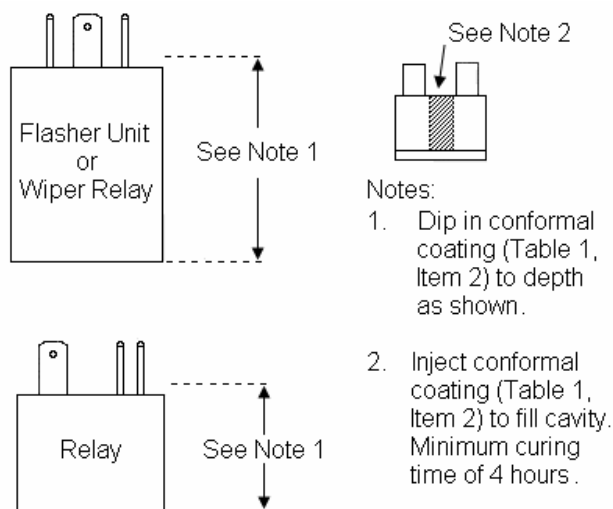

Figure 2 Treatment Of Fuses And Relays With Conformal
- d. Apply the conformal coating (Table 1, Item 2) to the wiper delay relay, flasher unit, other relays and fuses, as shown in Figure 2.